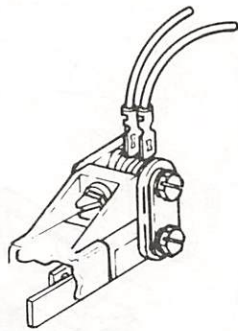

Figure 9 - Feed Magnet Contacts
- (c) As the reader trip lever moves away from the armature extension, the reader trip lever extension momentarily opens the feed magnet contacts causing the feed magnet in the reader mechanism to become de-energized (Figure 9).